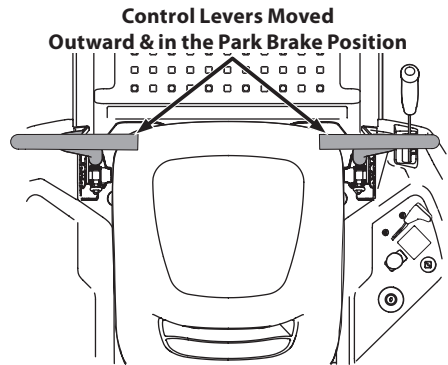

Figure 20
1. Operator should be sitting in the tractor seat with the lapbar drive control levers fully out and in the park position. See Figure 20. Refer to Practice Operation for further instructions.